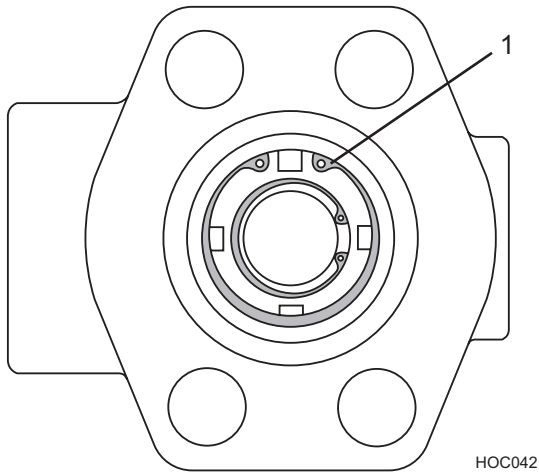

Figure 38
5. Disassemble the flow control. Push in on the spool and remove the large retaining ring (Figure 38, Item 1) from the housing.